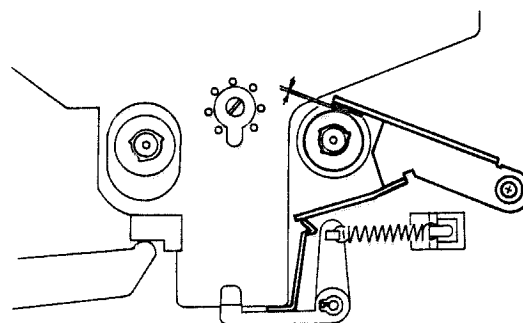
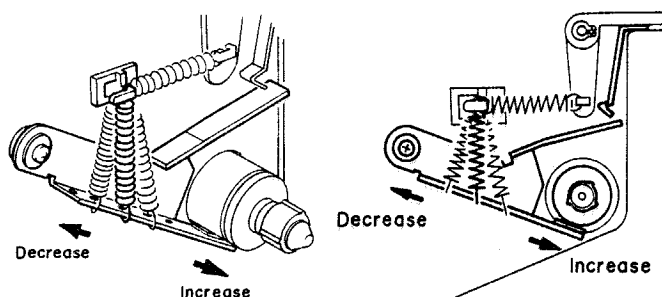

Fig. 4.15
Fig. 4.16
- (4) Set the Cassette Deck in stop mode, and remove the Tension Arm Adjustment Cassette (DA09056A), then set the Cassette Deck in cue mode. In cue mode, check to insure that the gap is found between the Supply Reel Hub B Ass'y and the Felt of Back Tension Ass'y as shown in Fig. 4.15.
- (5) Load the Back Tension Gauge (DA09055A).
- (6) Set the Cassette Deck in play mode and read the torque value of Back Tension Gauge. If the value is in a range of 6 g-cm to 10 g-cm, adjustment is not necessary. If not, change the installation point of the Back Tension Spring as shown in Fig. 4.16, and obtain the torque of 7 g-cm to 9 g-cm range.